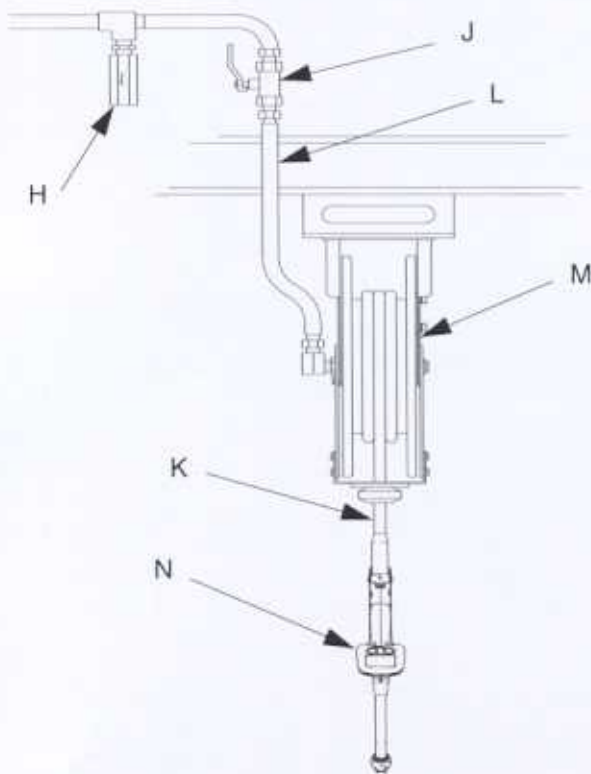

FIG. 2
The typical meter installation shown in FIG. 2 is only a guide. The components shown are typical; however, it is not a complete system design. Contact your Graco distributor for assistance in designing a system to suit your particular needs.
2. Close the shut-off valve (J). See FIG. 2.
1. Close the fluid shut-off valve (J) at each dispense position. See FIG. 2.
4. Slowly open the shut-off valve (J) at the dispense position. Flush out a sufficient amount of oil to ensure that the entire system is clean, and close the valve.